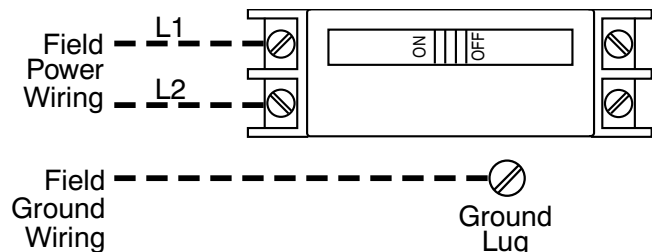

Fig. 14 – 10 kW Circuit Breaker and Disconnect Heaters
- a. Units with 10kW heaters are wired for single-supply circuit only (Fig. 14).